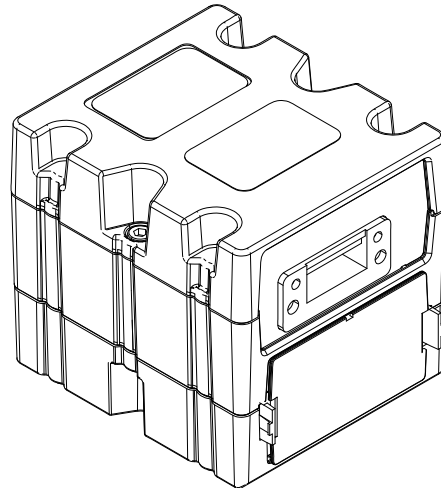

FIG. 34
6. If Used, connect the Ethernet, DeviceNet, or Profibus cable to the CGM as applicable. Connect the other end of the cable to the FieldBus device. See FIG. 34.